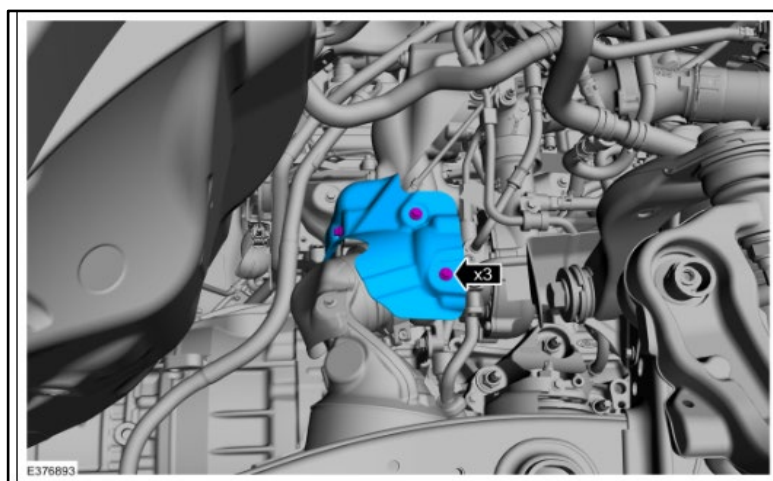

FIGURE 2
2. Remove the heat shield. Refer figure 2